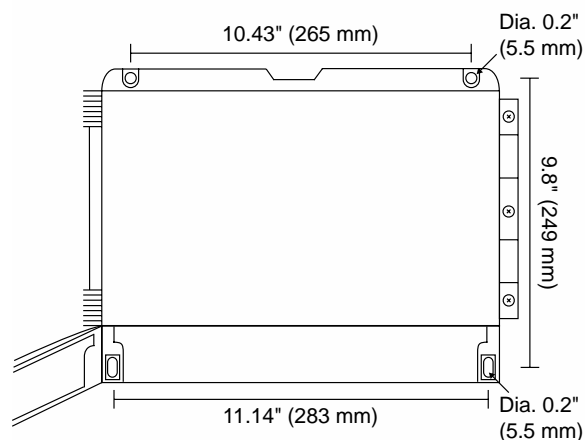

Figure 2. Meter Mounting Holes Dimensions
- Select the appropriate mounting screws for the mounting surface to be used. The mounting holes diameter is shown on *Figure 2*.